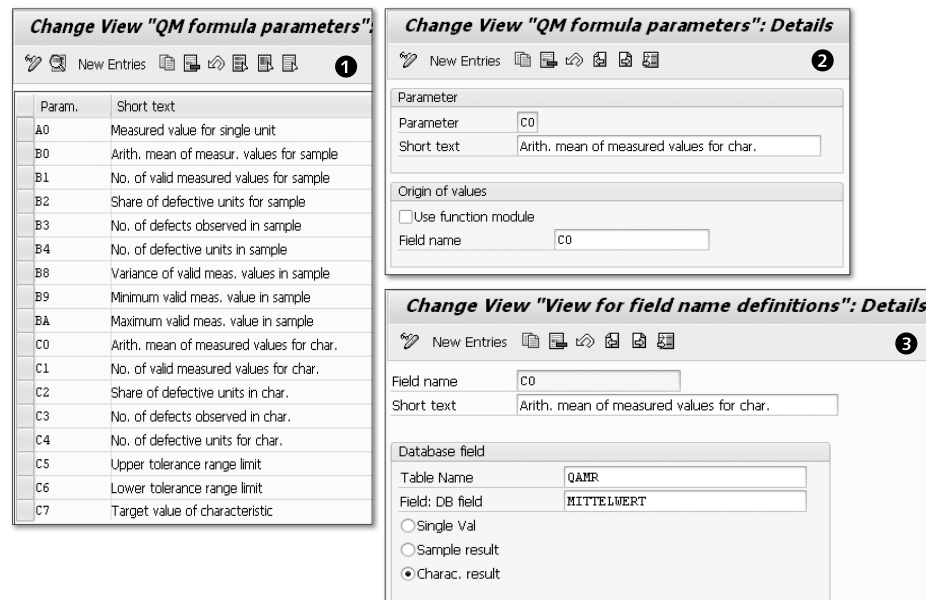

Figure 3.77 QM Formula Parameters
To define a parameter for a calculated characteristic, follow the menu path SPRO • SAP REFERENCE IMG • QUALITY MANAGEMENT • QUALITY INSPECTION • RESULTS RECORDING • DEFINE PARAMETERS FOR CALCULATED CHARACTERISTICS. In the pop-up that appears, choose DEFINE PARAMETERS FOR CALCULATED CHARACTERISTIC, and it leads to Figure 3.77 ①. A long list of standard parameters is available, and this is generally sufficient to cater to different business needs. Choose parameter C0, and it leads to ②. In ②, the parameter C0 is basically the FIELD NAME C0 in the respective table, and it's the mean value of the measured value of a characteristic. Notice the option to incorporate FUNCTION MODULE to cater to any specific business need.